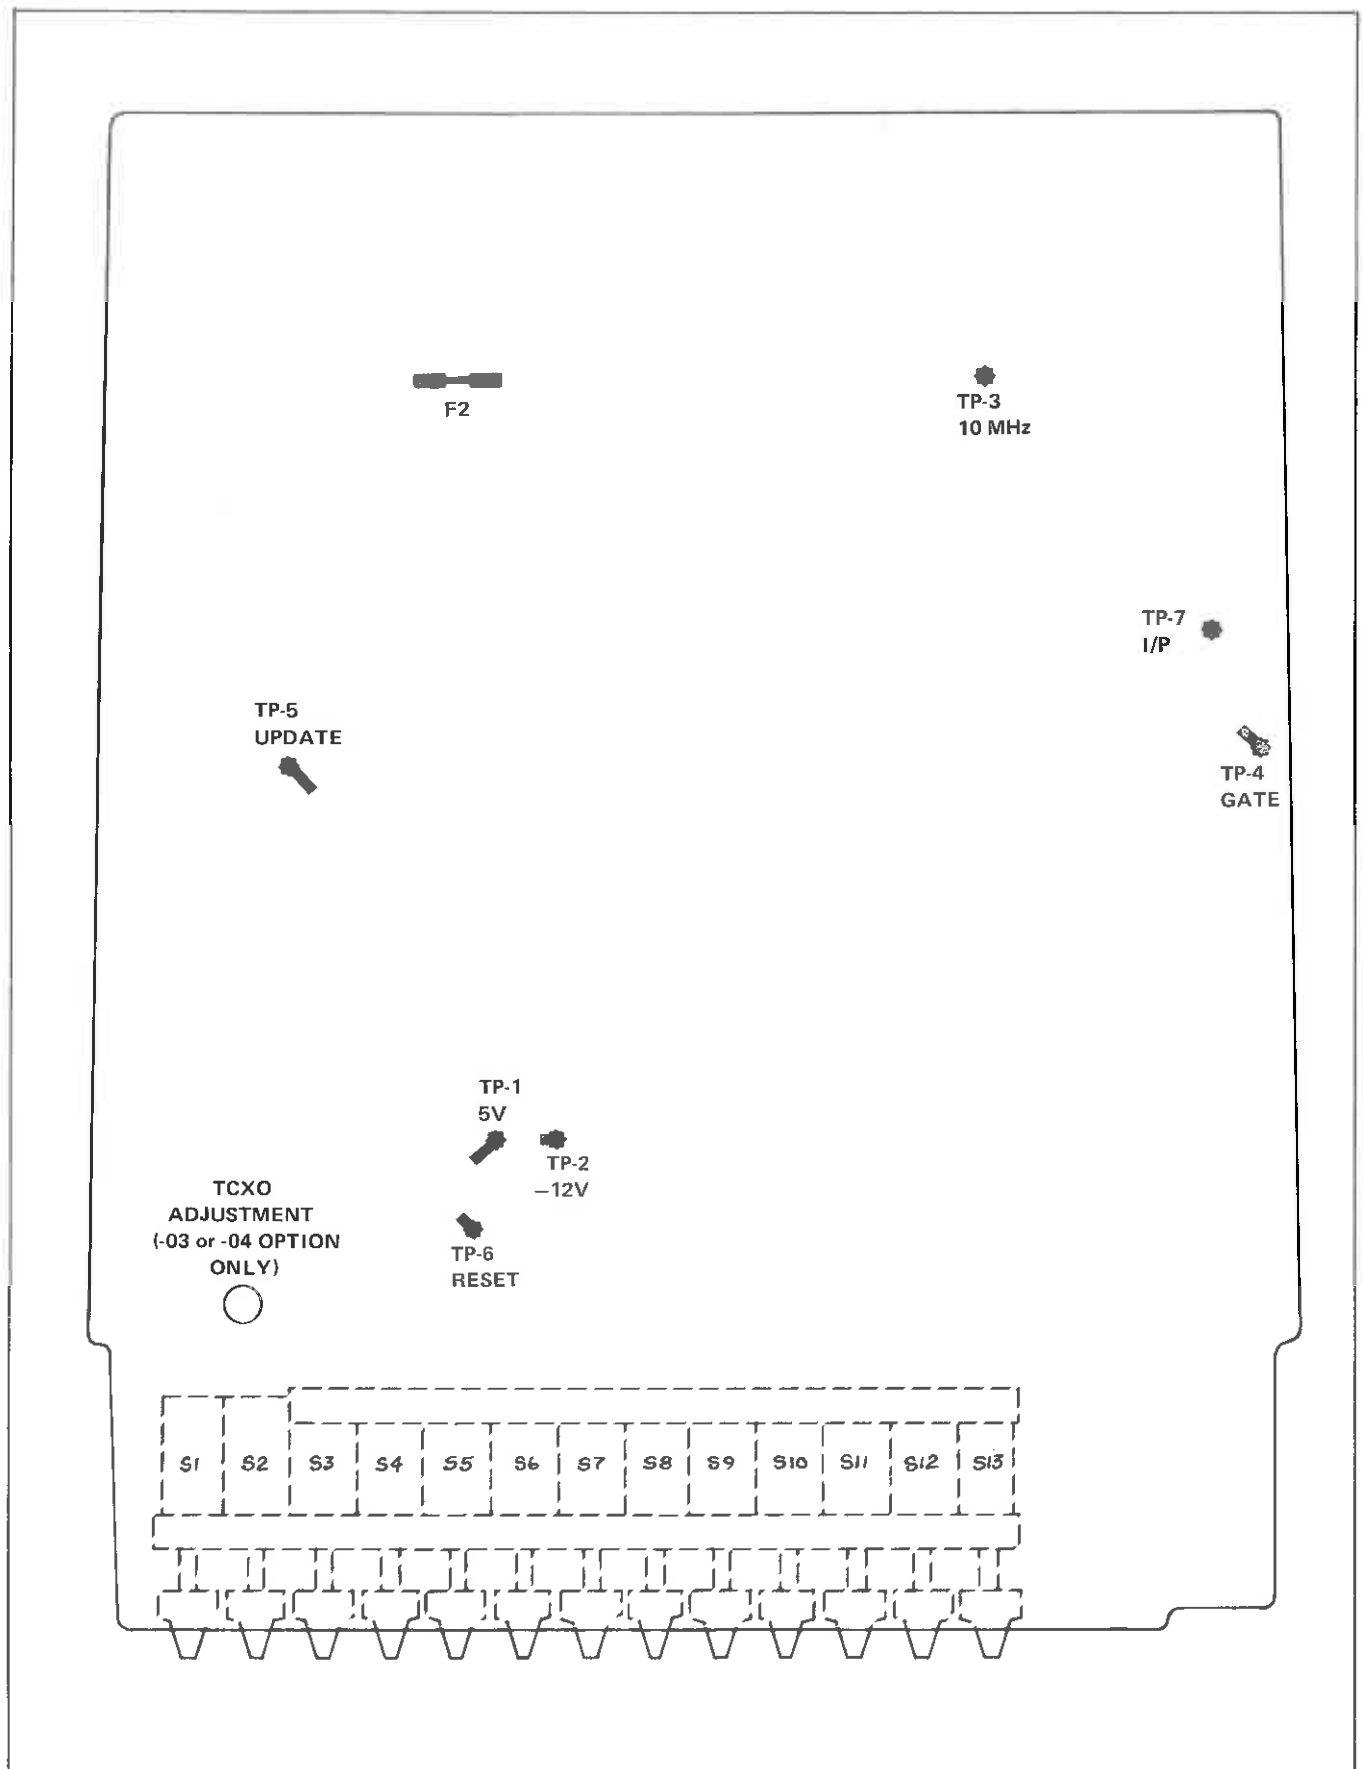

Figure 4-2. Main PCB (BOTTOM VIEW)
5. Using a nonconductive screwdriver adjust the TCXO through the main PCB (see Figure 4-2) to obtain a reading of overflow 000.0000 Hz \pm 3 digits for the -03 and -04 Options.
Test points are clearly marked on the bottom of the main PCB with a number and a star, see Figure 4-2.